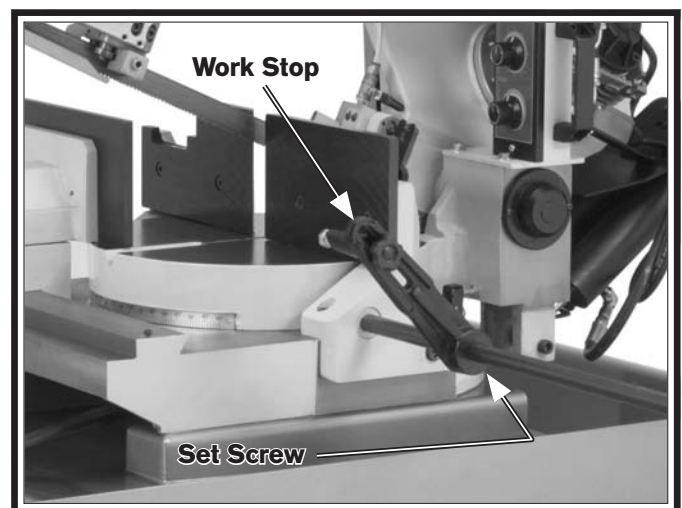

Figure 11. Installing work stop.
3. Slide the work stop onto the work stop rod, position it as necessary, then tighten the set screw shown in **Figure 11**.